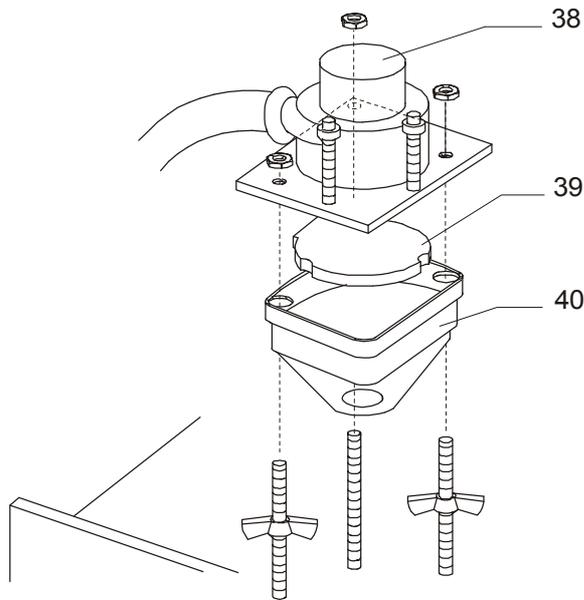

Fig. 23: Collecting container
- Clean collecting container (40) under the suction device (38), wash out or replace filter (39) (Fig. 23: Collecting container on page 21).